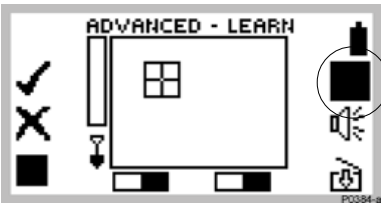

Figure 6.3 Accept all clears the screen
STEP 2 (Figure 6.3) Press the shift button next to Reject All/Accept All icon to fill in the screen. The icon changes to all clear to indicate that the next time it is pressed, the Learn screen will clear. Press the button again to clear the screen and accept all targets.